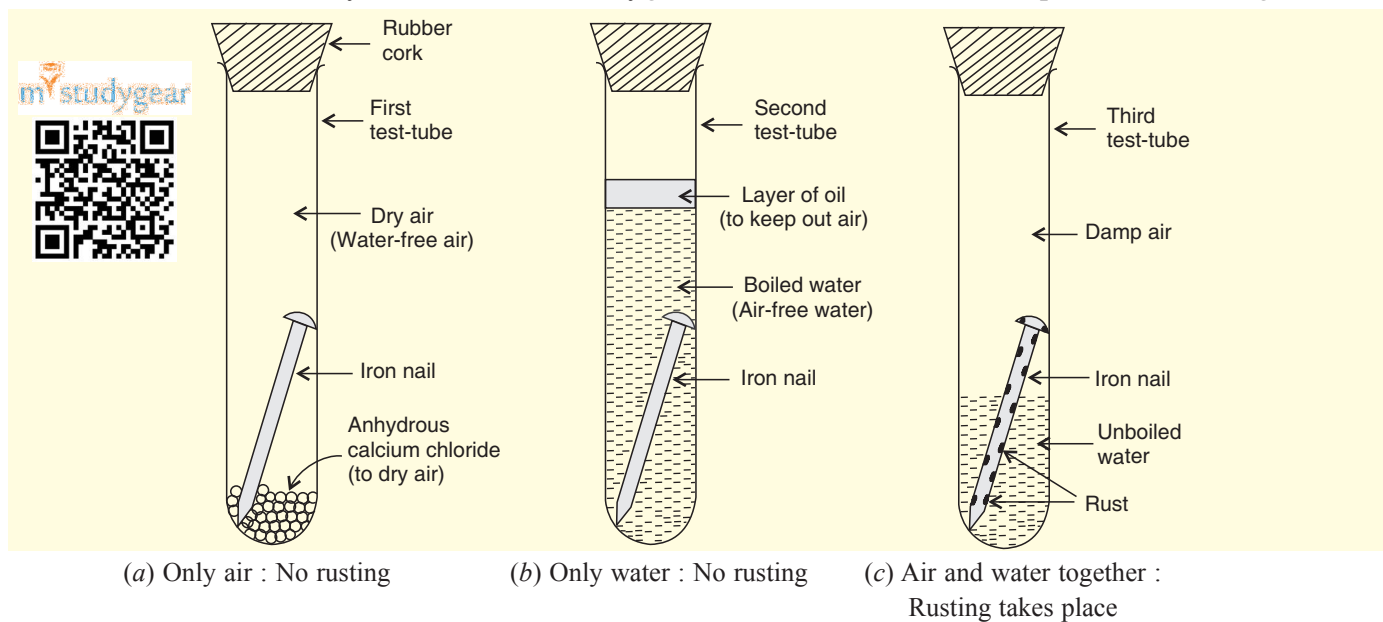

Figure 86.
1. In the first test-tube containing iron nail, we put some anhydrous calcium chloride and close its mouth with a tight cork [see Figure 86(a)]. The anhydrous calcium chloride is added to absorb water (or moisture) from the damp air present in the test-tube and make it dry. In this way, **the iron nail in the first test-tube is kept in dry air (having no water vapour in it).** This test-tube is kept aside for about one week.
2. In the second test-tube containing iron nail, we put boiled distilled water [see Figure 86(b)]. Boiled water does not contain any dissolved air (or oxygen) in it (This is because the process of boiling removes
3. In the third test-tube containing an iron nail, we put unboiled water so that about two-thirds of the nail is immersed in water and the rest is above the water, exposed to damp air [see Figure 86(c)]. In this way, **the iron nail in the third test-tube has been placed in air and water together.** The mouth of this test-tube is closed with a cork and it is also kept aside for about one week.
(i) No rust is seen on the surface of iron nail kept in dry air (water-free air) in the first test-tube [see Figure 86(a)]. This tells us that *rusting of iron does not take place in air alone.*
(ii) No rust is seen on the surface of iron nail kept in air-free, boiled water in the second test-tube [see Figure 86(b)]. This tells us that *rusting of iron does not take place in water alone*.
(iii) Red-brown rust is seen on the surface of iron nail kept in the presence of both air and water together in the third test-tube [see Figure 86(c)]. This tells us that *rusting of iron takes place in the presence of both air and water together*.